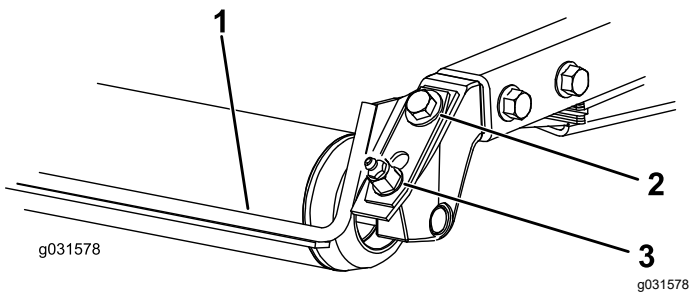

Figure 18
1. Loosen the grease fitting and the mounting screw (Figure 18).